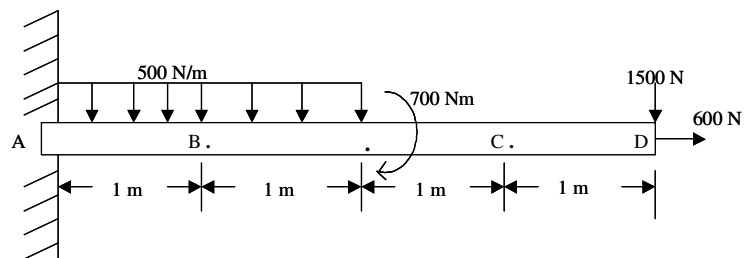

Figure 4
- 1 (a) Determine the axial force, shear force and bending moment acting at points B and C of the cantilever beam loaded as shown in Figure 4. The 600 N axial force is applied along the central axis of the beam. (10 marks)